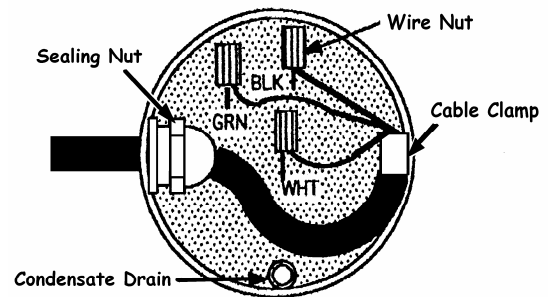

Figure 3.
- 3) Insert power cord and route as shown in Figure 3.